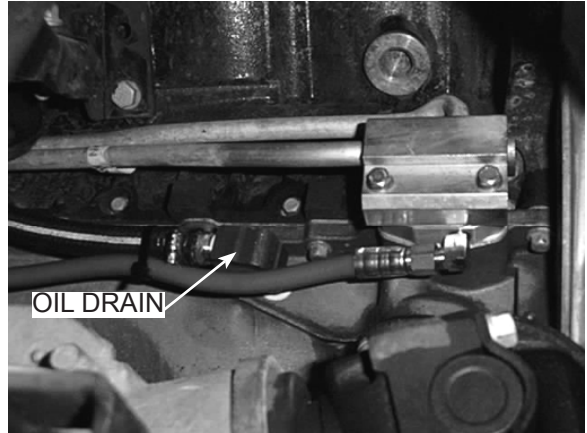

Fig. 5-a
- A. To provide an oil drain for the supercharger, it is necessary to make a hole in the oil pan. Locate and centerpunch the hole per Fig. 5-a. Drill a 1/8" pilot hole at center location.
- E. Route the oil drain hose from the supercharger to the barb fitting, attach and tighten the hose clamp. (See Fig. 5-a.)